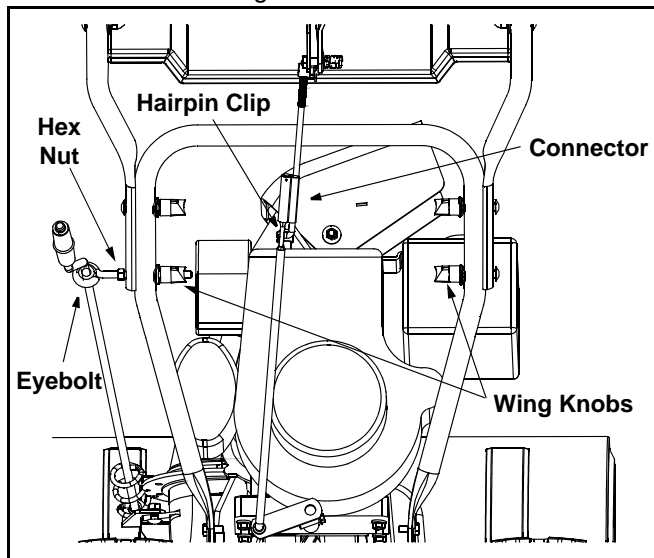

Figure 4
- Raise the upper handle assembly until it locks over the lower handle. See Figure 4.
- Secure the upper handle and lower handle with the two plastic wing knobs, cupped washers and carriage bolt (eyebolt on the left side) previously removed. See Figure 4.
- Slide the connector down over the end of the lower shift rod. See Figure 4. Tap the connector until it **locks** on the lower shift rod.